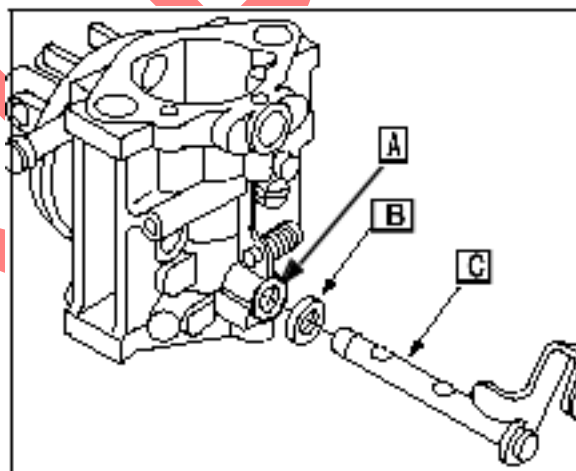

Fig. 106
Place plastic throttle shaft seal (B) on throttle shaft ([C] Fig. 106).